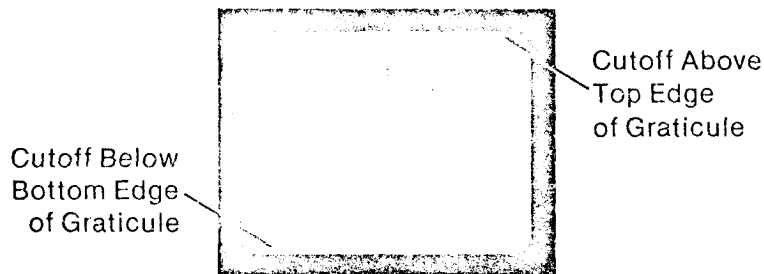

Figure 31. CRT Trace With Front-Panel **VERT GAIN** Control Correctly Adjusted
- n. On the Spectrum Analyzer, adjust the **TUNING** control slightly to obtain a trace (on the oscilloscope CRT) that flattens on the top and bottom (see Figure 31).
- o. Adjust the 8750A front panel **VERT GAIN** control so both the top and bottom flat cutoff sections of the oscilloscope trace move outside the CRT graticule area on the top and bottom (see Figure 31).